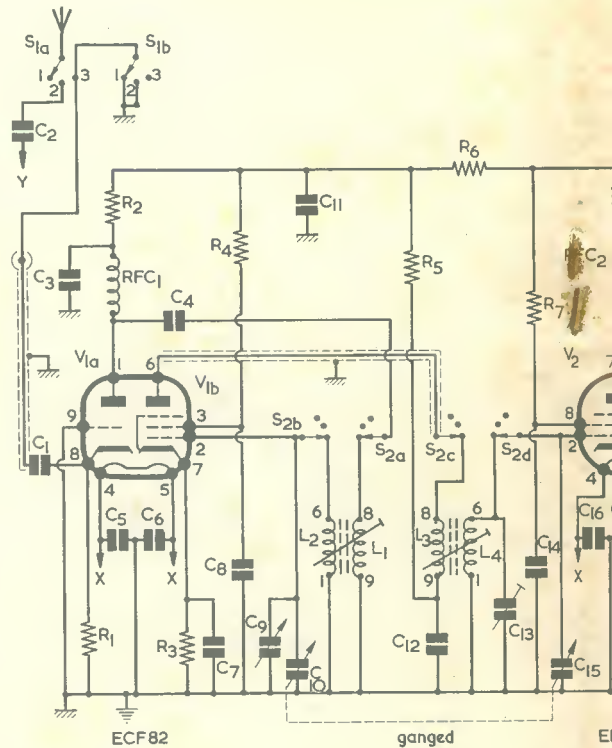

Fig. 1. The circuit of the
The circuit is shown in Fig. 1 and from this it will be seen that the aerial switching is arranged such that a choice is given of three positions: (1) aerial disconnected both from preselector and receiver; (2) aerial connected direct to receiver input and (3) aerial connected to preselector input.